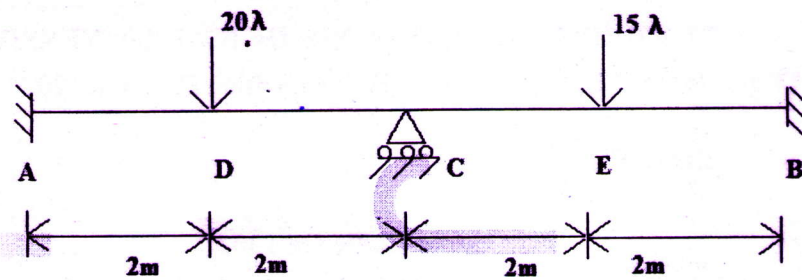

Fig.1
- 11 a) Define shape factor. Derive an expression for shape factor for rectangular cross section of width b and depth D . (4)
- b) Determine the Plastic moment M_p required in the continuous beam shown in Fig.1 so as to ensure a minimum load factor $=1.7$ (10)